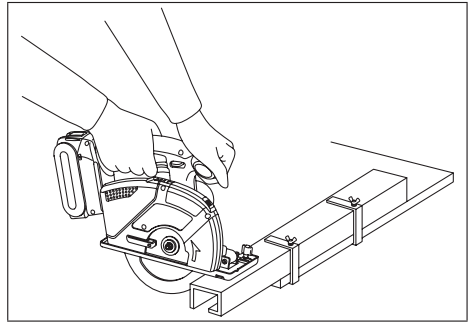

Fig. 14
- Figure 14 shows proper cutting position.